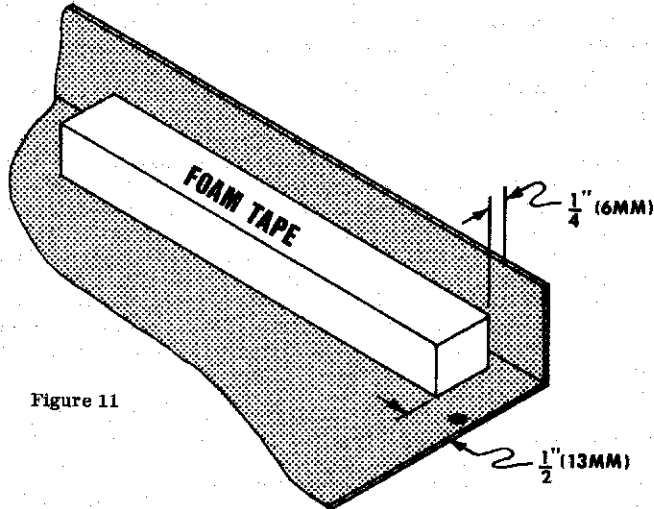

Figure 11
- () Cut a 11-1/2-inch (29.2 cm) length of the rubber extrusion supplied and mount on the front edge of the case bottom as illustrated in figure 11.
- () Mount the remaining piece of foam tape to the case bottom as illustrated in figure 11.